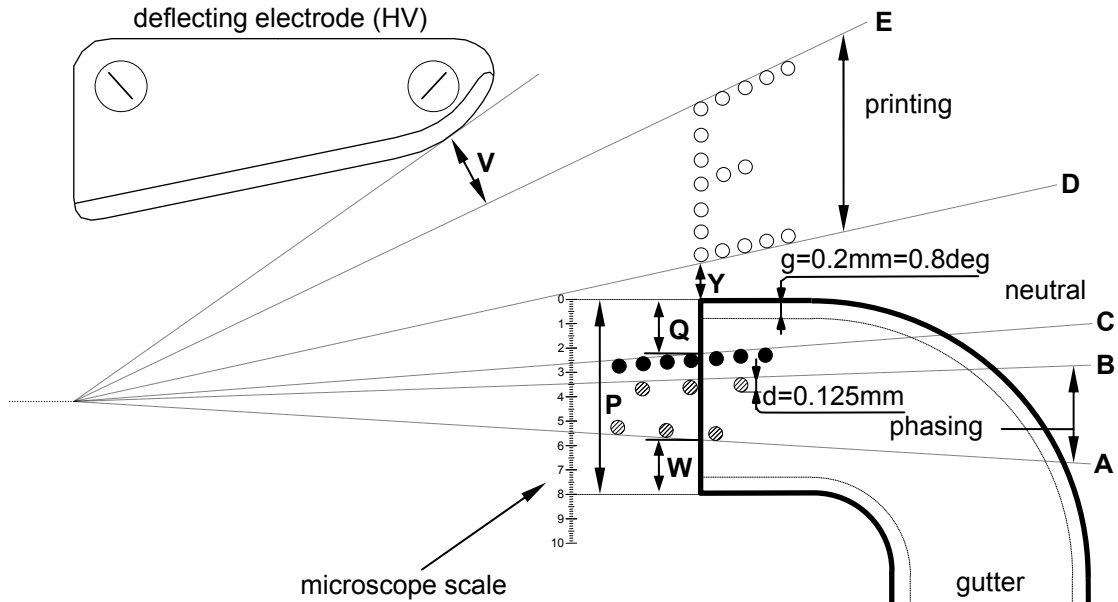

Fig. 6.2.2.3
- Five ink jets **A**, **B**, **C**, **D**, **E** (see Fig. 6.2.2.3) can be observed with a microscope (gray dots). Adjust the position of the gutter (with screws **S1** and **S2**) so that the margins **Q**, **W**, **Y**, **V** meet the conditions given in Tab. 6.2.2.1: